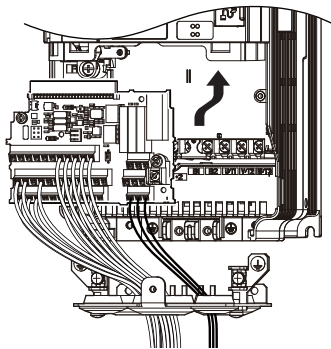

Figure 6.45 Installing the Terminal Board
- After wiring the main circuit, connect the terminal block to the converter as shown in Figure 6.45. Use the installation screw to fasten the terminal block into place.